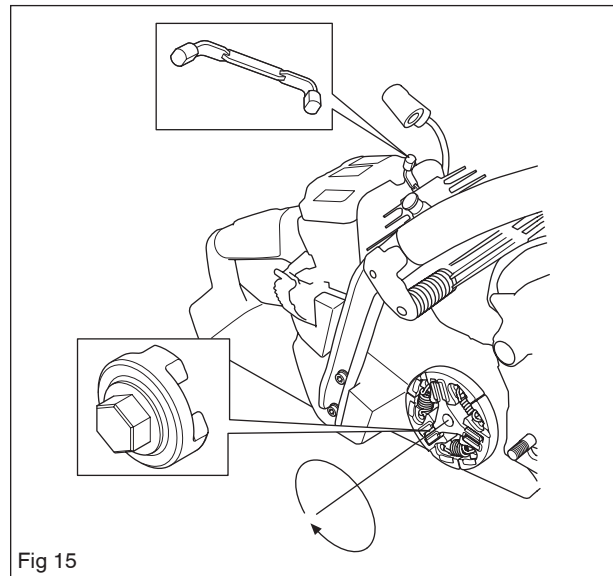

Fig 15
2. Loosen the spark plug hat and remove the spark plug, and insert the plastic piston stop (575 29 36-01). See figure 15.
3. Loosen the clutch using tool 582 82 42-01, or 575 25 14-01, and a suitable socket wrench or combination spanner. Turn the clutch clockwise to loosen it. See figure 15.